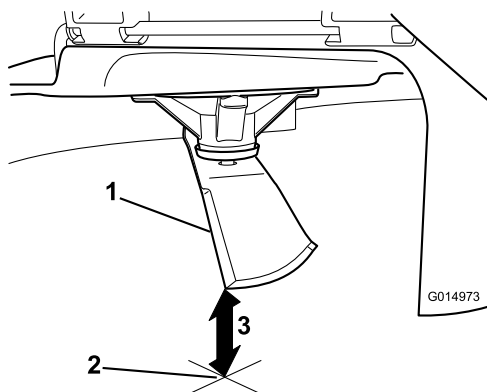

Figure 108
3. Measure from the tip of the blade to the flat surface (Figure 108).